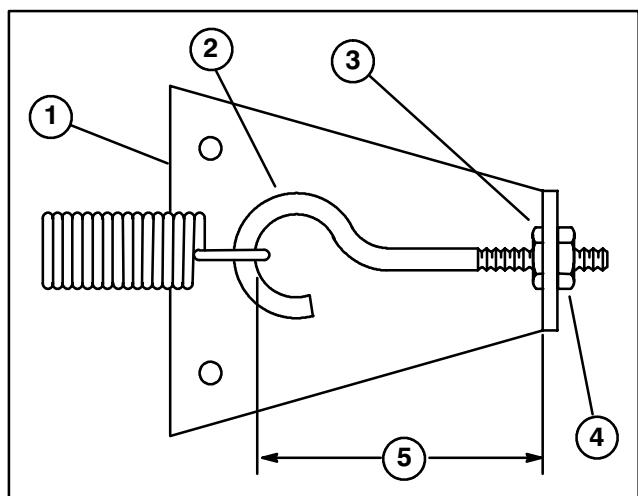

Figure 65
## CHECKING AND ADJUSTING TRACTION LINKAGE (Fig. 65)
4. Rotate, clockwise, until distance between inside of eye bolt loop and inside of spring anchor plate is shortened 1/8", as shown in figure 65. Tighten hex nut.